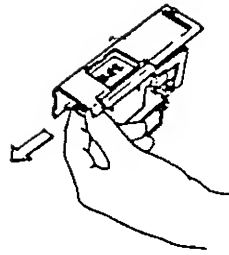

Fig. 20
4. Draw out the store name stamp in the direction shown in Fig. 20 with the protruding part pinched with your fingers (Fig. 20).